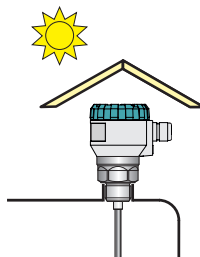

Fig. 10: Solar radiation shielding cover
- The level meter must not be installed in locations exposed to direct solar radiation and must be protected against the effects of weather. In the event that installation in a location with direct solar radiation is unavoidable, it is necessary to install a shielding cover above the level meter (fig. 10).